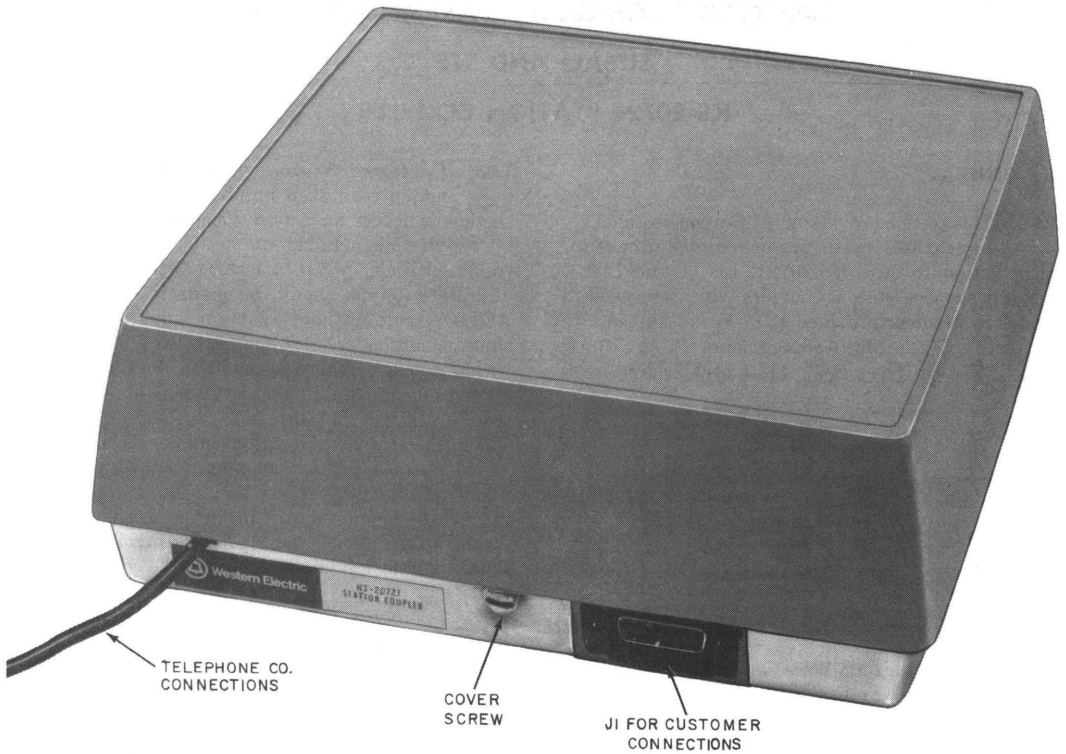
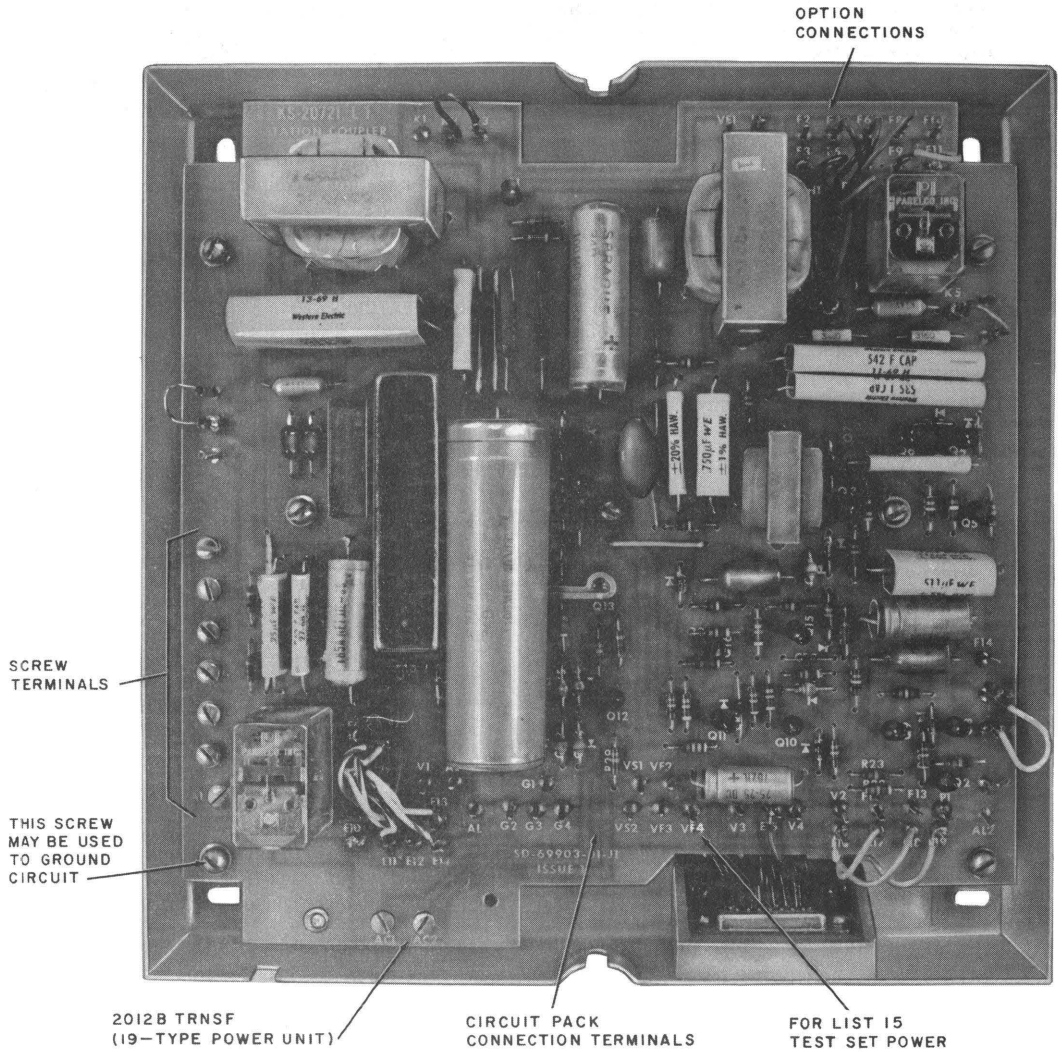
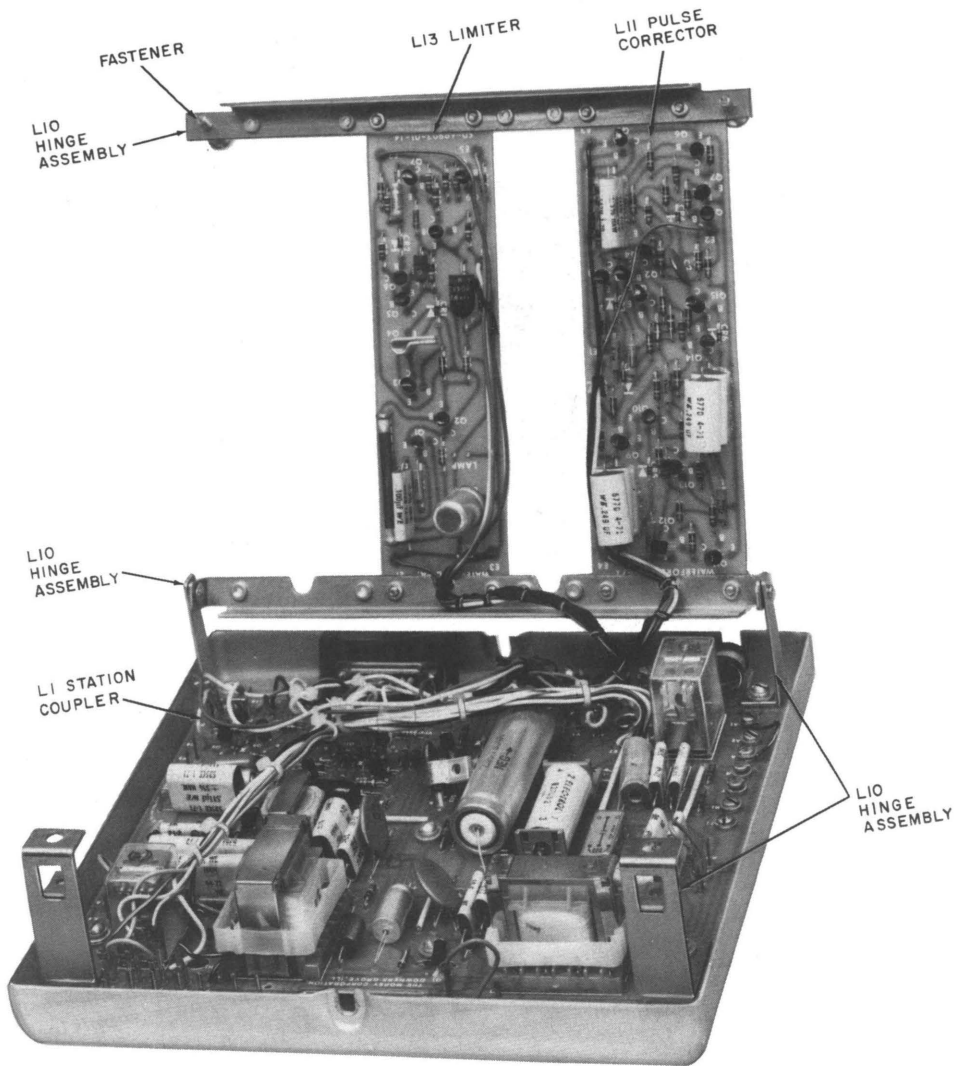
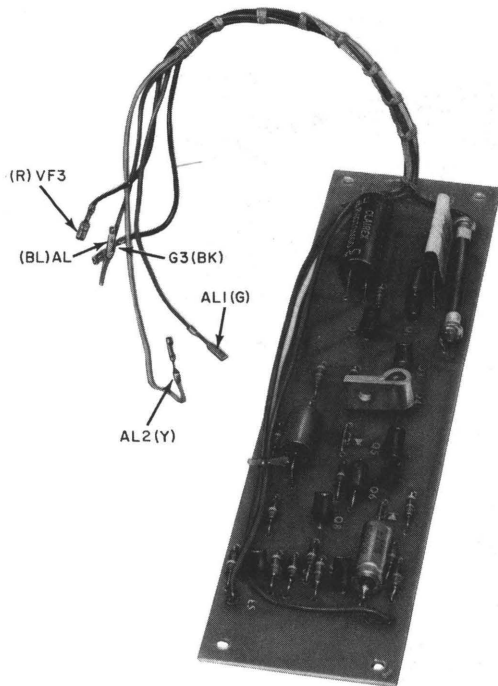

Fig. 1—KS-20721, List 1 or List 3 Station Coupler
Fig. 2—KS-20721, List 1 Station Coupler, Cover Removed, Used With PCA SU6AQ
Fig. 3 - KS-20721, List 3 Station Coupler Used With PCA STS
Fig. 4—KS-20721, List 13 Limiter
**1.03** The KS-20721 station coupler (Fig. 1) is used to provide services similar to those provided by the KS-20008 control unit (MD) and the KS-20445, List 1 control unit for alarm systems. However, the plug and wiring connections may be different and substitution should not be made without customer approval.
- Coupler, Station, KS-20721, L1 (Fig. 1 and 2). Used for PCA SU6AQ.
- Coupler, Station, KS-20721, L3 (Fig. 3). Used for PCA STS. The L3 comes factory-wired with the three units listed below. These three units may also be ordered separately and assembled in the field. (See 2.03 and 2.04.)
Assembly, Hinge, KS-20721, L10 (Fig. 3)
Limiters, KS-20721, L13 (Fig. 4)
**2.03** The KS-20721, List 1 station coupler (Fig. 2) is the basic unit which can be field equipped with a KS-20721, List 10 hinge assembly for mounting the optional circuit pack (Fig. 3). The circuit pack is equipped with quick connectors for easy installation.
**2.04** The KS-20721, List 3 station coupler consists of a KS-20721, List 1 station coupler with a KS-20721, List 10 hinge assembly and KS-20721, List 13 limiter (Fig. 4), factory-installed.
**3.02** A 15-pin connector (J1, Fig. 1) is located on the base of the unit to connect the transmission path and control leads to the CPE by means of a CP cable equipped with an ITT-Cannon Electric or Cinch Manufacturing Company plug No. DA-19603-403 (P1) with hood No. DA-51225-1. Screw terminals on the left side of the printed circuit board (Fig. 2) provide connections to the CO line, telephone set, and 2012B power transformer (or power supply). Flexible jumper leads with connectors provide for installation options.
- (2) Attach KS-20721, List 10 hinge assembly to the four corner screws mounting the List 1 board. Refer to Fig. 3.
- (3) Mount the circuit pack on the internal mounting frame formed by the hinge assembly. Place board in correct position on frame (refer to Fig. 3 or cover label) and secure with four corner mounting screws furnished with circuit pack.
- (4) Connect the flexible jumper leads on List 1 board to provide the required options called for in Table A by using the connecting information given in Table B. (See 3.04.)
- (5) Provide option T by plugging the connecting leads from circuit pack into corresponding terminals on List 1 board per Table B and Fig. 4. Dress leads to avoid interference with boards and cover and secure leads with cable clamp provided.
- (6) Close hinge assembly and fasten the two top corner fasteners.